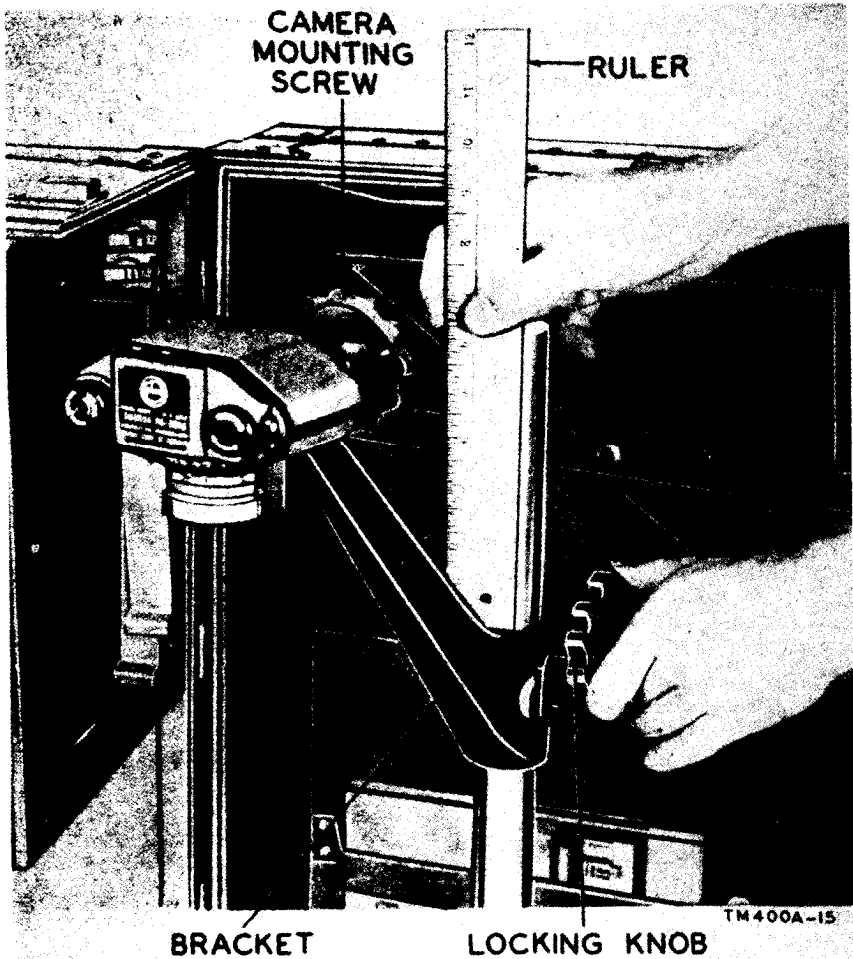

Figure 15. Measuring to set distance from lens to subject.
a. General. Copying by photography provides accurate reproductions of photographic prints, drawings, sketches, manuscripts, typed and printed matter, and many similar subjects. Photographic copies of these subjects can be made with Camera PH-324-A mounted on the enlarger bracket and fitted with a supplementary lens (par. 4e (5)).
- (1) Medium-speed, fine-grain films, such as Eastman Panatomic X, Dupont Superior No. 1, and Ansco Finopan. These films may be used for general work because they have good latitude and are capable of reproducing delicate graduations.
- (2) Slow-speed, extremely fine-grain films, such as Eastman Micro file, Dupont Microcopy, and Ansco Minipan. These films may be used when copying maps, charts, handwritten or typed documents, printed matter, and line drawings because of their ability to resolve fine detail. Where only black and white charts are to be copied, positive film may be used. This film is ordinarily used to make film positive from 35-mm negative and can be used in copy work where no colored material is to be copied.
c. Setting Up for Copying (fig. 15).
- (1) Load Camera PH-324-A with the proper negative film for the subject. The lens should be stopped down to about $f/16$ to provide a depth-of-field leeway for correcting slight inaccuracies of focus.
- (2) Center on the baseboard the original material to be copied. Loosen the locking knob on the column bracket and move the camera up or down to adjust the distance desired from the subject to the supplementary lens. The 12-inch ruler (fig. 15) is useful for measuring the lens-to-subject distance,